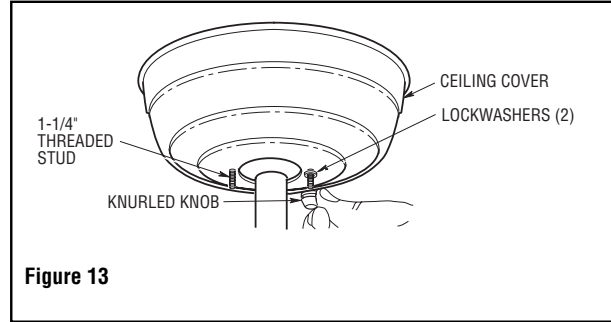

Figure 13
2. Lift the ceiling cover up to the threaded studs and turn until studs protrude through the holes in the ceiling cover (Figure 13).
3. Secure the ceiling cover in place by sliding lockwashers over the threaded studs and installing the two knurled knobs (supplied). (Figure 13.) Tighten the knurled knobs securely until the ceiling cover fits snugly against the ceiling and the hole in the ceiling cover is clear of the pipe.